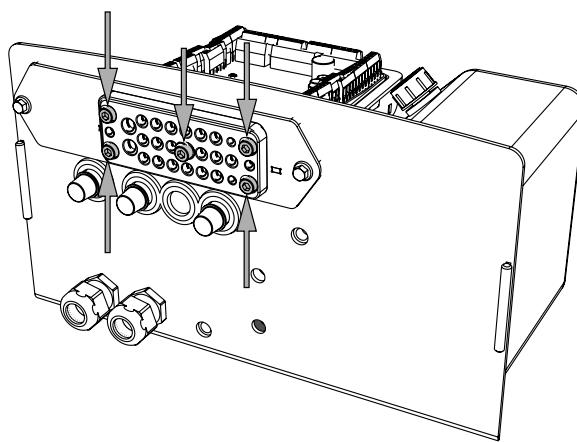

Figure 57. The cable grommet's five screws
1. Loosen the five screws on the cable grommet, see Figure 57. Cables can now be installed/removed/adjusted in the grommet. The cable should be installed together with existing cabling using cable ties.
1. When all cables are suitably located in the cable grommet, tighten the five screws; see Figure 57. Tightening torque: 5 Nm.